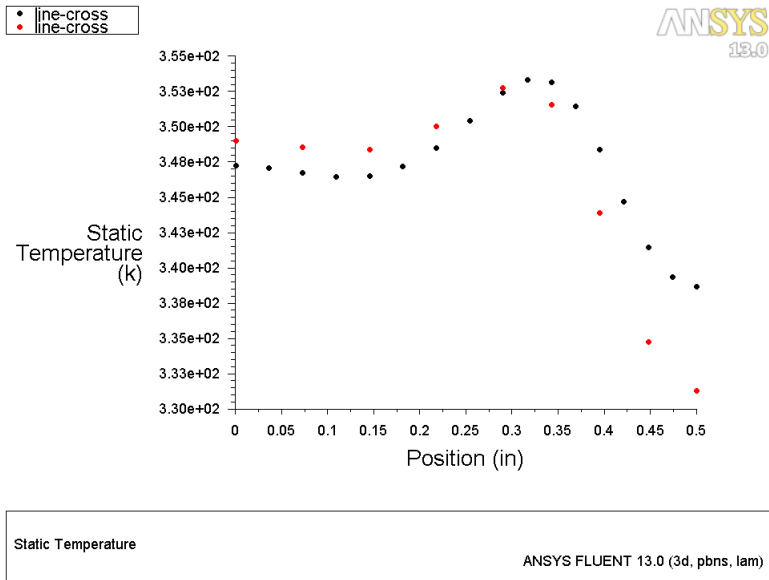

Figure 15: Comparison of Temperature Profiles After First Mesh Adaption
- (h) Click Plot (Figure 15).
Figure 15 indicates that the temperature distribution has changed considerably after adapting the mesh. This is because the original mesh was too coarse to resolve temperature gradients and thus, predict accurate heat transfer. Based on this comparison, you can conclude that the solution is dependent on the mesh and that a further mesh adaptation should be performed.
For most cases, one or two mesh adaptions are sufficient to obtain a mesh independent solution. So far, you performed one adaption in an attempt to improve the solution and migrate toward a solution that is independent of the mesh. However, another adaption should be performed to investigate if considerable changes are seen in the solution (as seen in Figure 15) after mesh refinement.